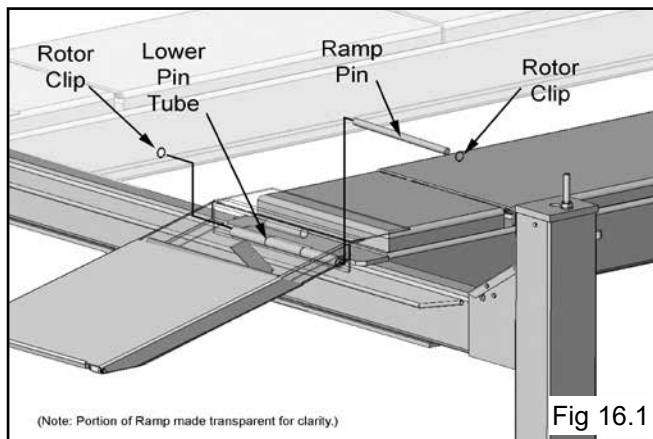

Fig 16.1
1. Install the Approach Ramps on the entry side of the lift. Use the Lower Pin Tube. (See Fig. 16.1 )